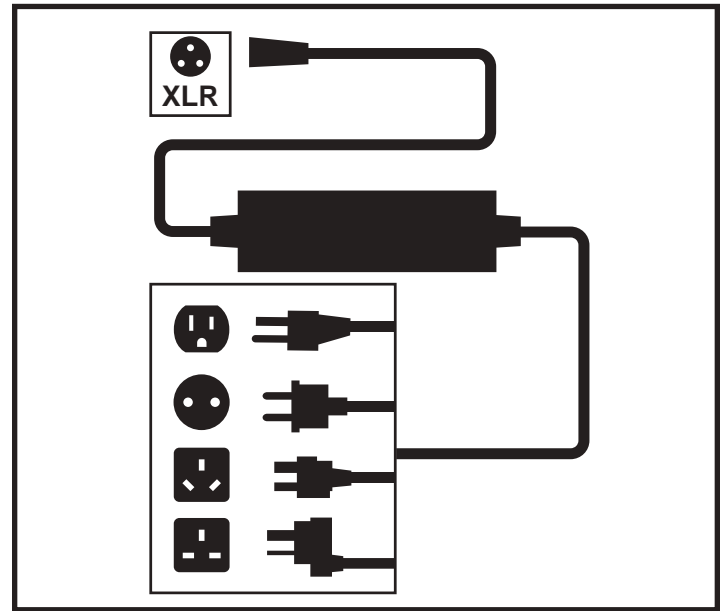

Figure 19. Battery Charging
3. Plug the off-board charger into the off-board charger/programming socket on the controller. See figure 19.